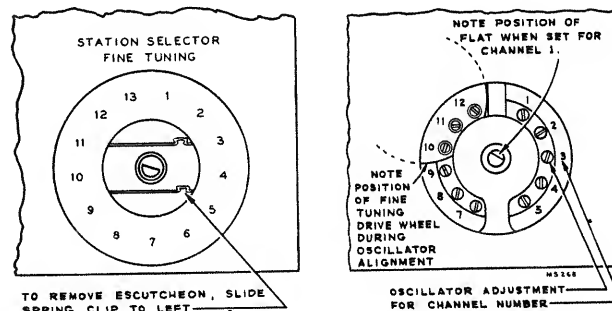

Figure 7—R-F Oscillator Adjustments
**CHECK OF R-F OSCILLATOR ADJUSTMENTS**—With a crystal calibrated test oscillator or heterodyne frequency meter, check to see if the receiver r-f oscillator is adjusted to the proper frequency on all channels. If adjustments are required, these should be made by the method outlined in the alignment procedure on page 8. The adjustments for channels 1 through 5 and 7 through 12 are available from the front of the cabinet by removing the station selector escutcheon as shown in Figure 7. Adjustments for channels 6 and 13 are under the chassis.